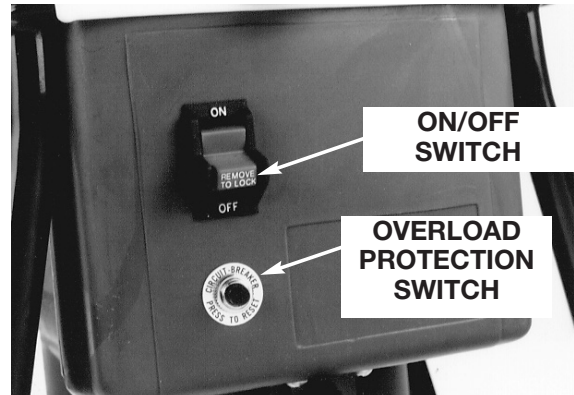

Fig. 8
3. To stop the shredder, switch to the off position. (Fig .8)
JAMMING If overfeeding clogs the machine the overload protection switch may cut out the motor. To restart, first switch the machine off and disconnect the power cord. Loosen caging knobs and remove top cover assembly, then remove any clogged debris from the cutting chamber. If the top cover assembly becomes jammed and will not lift off, turn the V-cutter by pushing a piece of wood through the back chute of the top hopper to rotate the V-cutter to enable the top cover assembly to be removed. Reset motor overload protection switch. (Fig. 8)